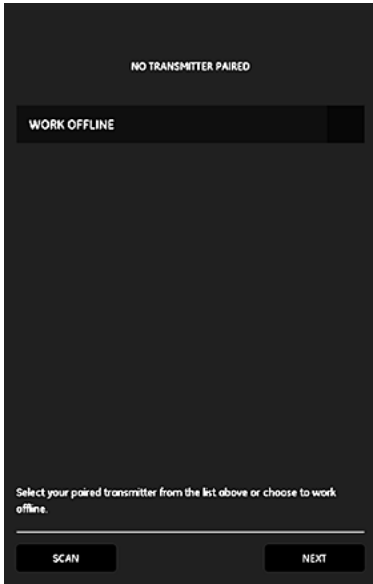

Figure 63: Initial transmitter list
- After the app finishes loading, the default transmitter list is displayed. During initial installation, this list is empty (see *Figure 63* below).